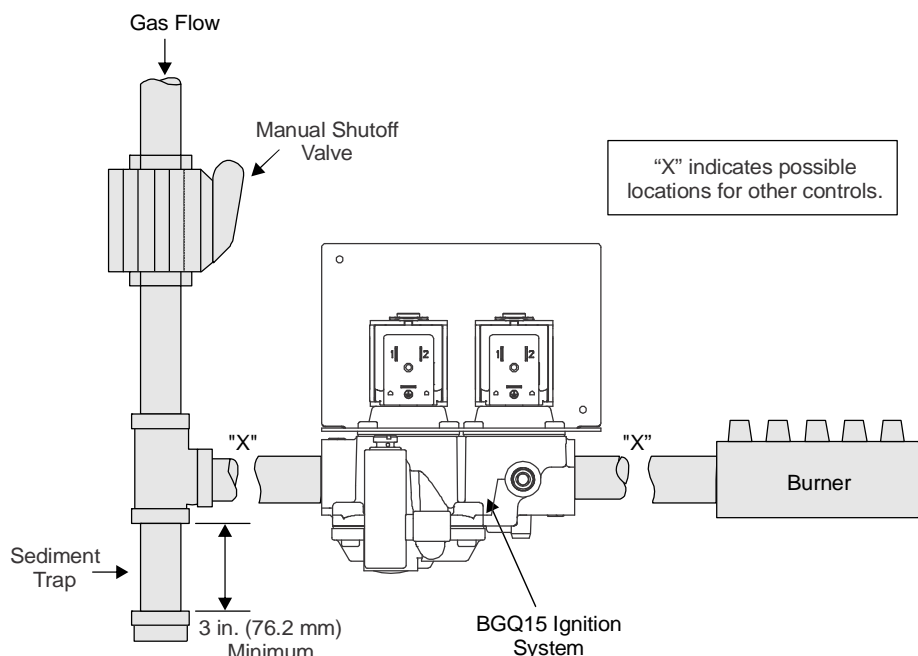

Figure 2: Typical Installation of a BGQ15HAA-1
4. Mount the ignition system to the pipework. Use an approved pipe joint sealing compound on the male threads before assembling. Remove excess compound after mounting the ignition system to the pipework. Threads of the pipe and nipples must be smooth and free of tears and burrs. Steam clean all piping to remove foreign substances such as cutting oil or thread chips. A sediment trap must be installed in accordance with the National Fuel Gas Code (ANS Z223.1). See Figure 2.